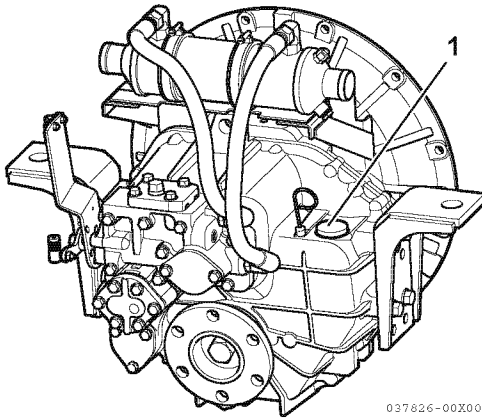

Figure 3
9. Remove the oil cap (1, **Figure 3**). Fill with the following quantities of oil, and add the amount required for cooler and pipelines.